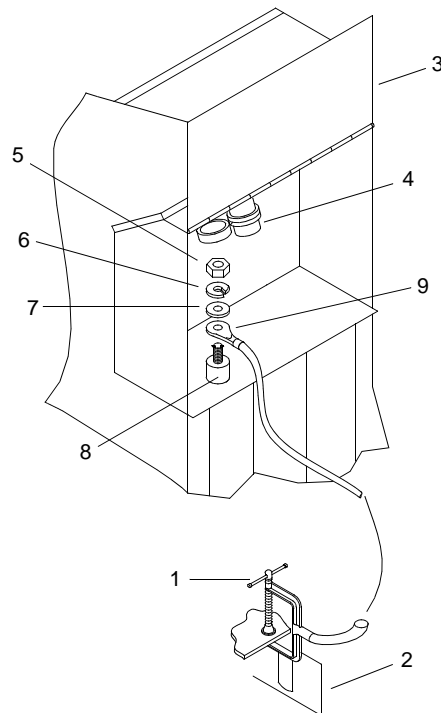

Figure 23. Ground Cable Installation
1. Remove ground cable C-clamp (figure 23, item 1) from ISO fitting (figure 23, item 2).
2. Open hinged cover (figure 23, item 3) over shore tie connector fitting (figure 23, item 4) and latch in open position.
3. Remove nut (figure 23, item 5), lockwasher (figure 23, item 6) and flat washer (figure 23, item 7) from ground stud (figure 23, item 8).
4. Remove ground cable (figure 23, item 9) from ground stud (figure 23, item 8). Stow ground cable in container.